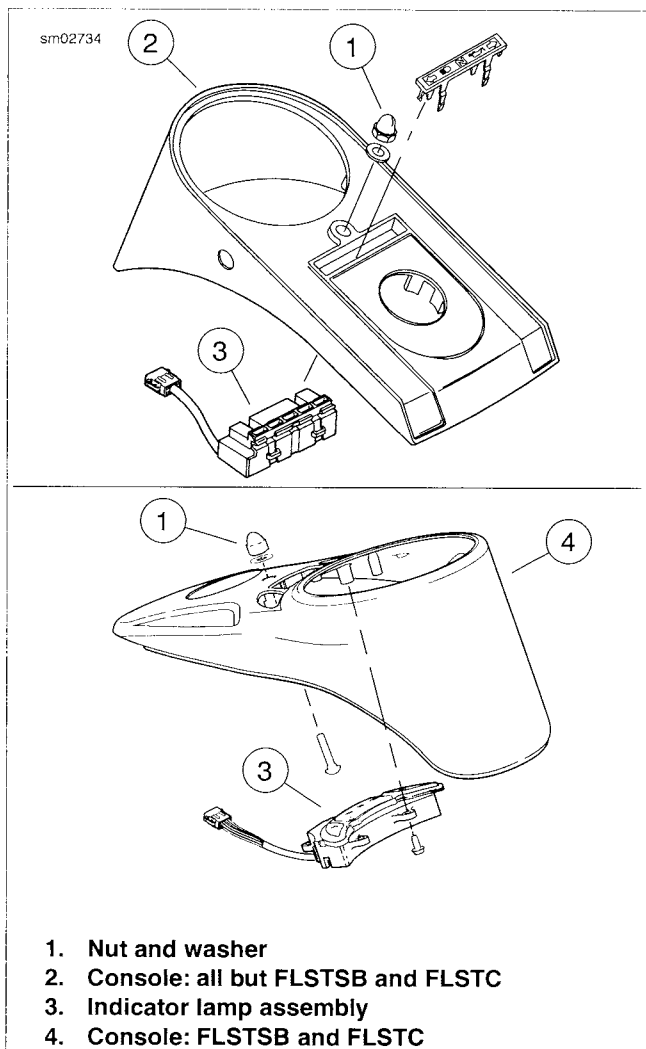

Figure 7-74. Indicator Lamp Assembly: All but FXCWC
1. See Figure 7-74. Remove nut and washer (1). Raise console (2 or 4) from fuel tank. Place shop rags on tank and flip console over to expose underside.
3. Connect connector [21] (3) to main wiring harness.
4. See Figure 7-74. Place console (2 or 4) in position. Install nut and washer (1). Tighten to 7-11 ft-lbs (9.5-14.9 Nm).